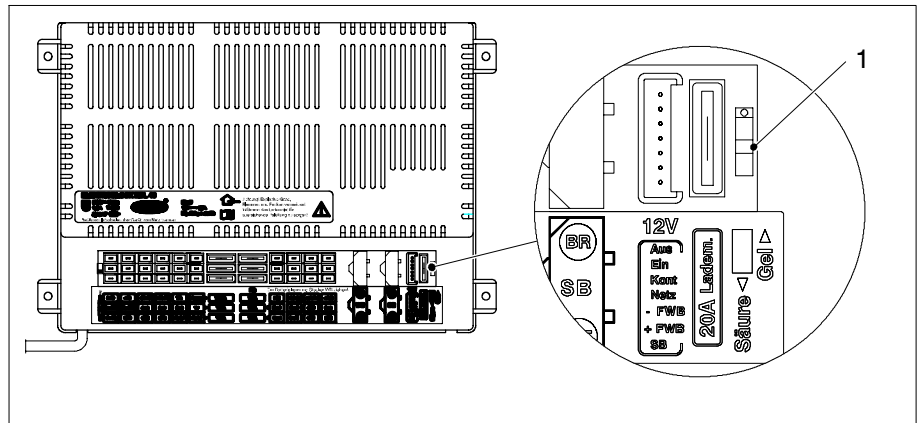

Fig. 1 Battery selector switch
- ▶ Set the battery selector switch (fig. 1, pos. 1) to the correct position using a thin object (such as a ballpoint pen):